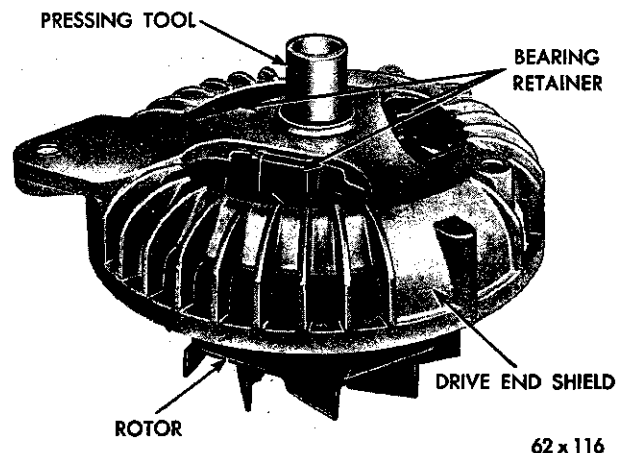

Fig. 35—Installing the Drive End Shield and Bearing
(6) Insert the drive end bearing in the drive end shield and install the bearing retainer plate to hold the bearing in place.
(7) Position the bearing and drive end shield on the rotor shaft and, while supporting the base of the rotor shaft, press the bearing and shield into position on the rotor shaft with arbor press and Tool C-3769 (Fig. 35).